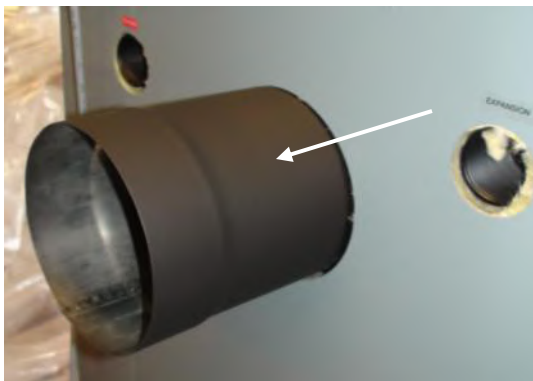

Fig. 3.3 Flue Outlet with collar (SP 40 shown)
- The chimney connection pipe must be placed over the outside of the boiler's flue gas exhaust pipe (**Fig. 3.3**). A boiler flue with an internal dimension of 5.8" (149 mm) is used – see specification data in **Section 6.3**.